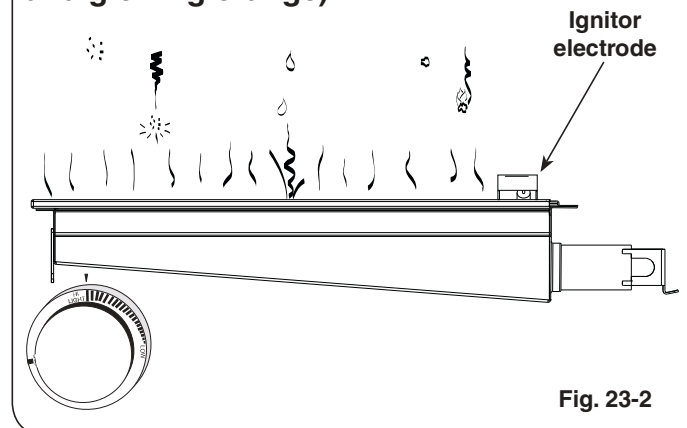

Fig. 23-2
- **DO NOT place food on the cooking grid until the IR burner glows orange (Fig. 23-2).** Drippings are heated and evaporate instead of sticking to and impairing burner function.